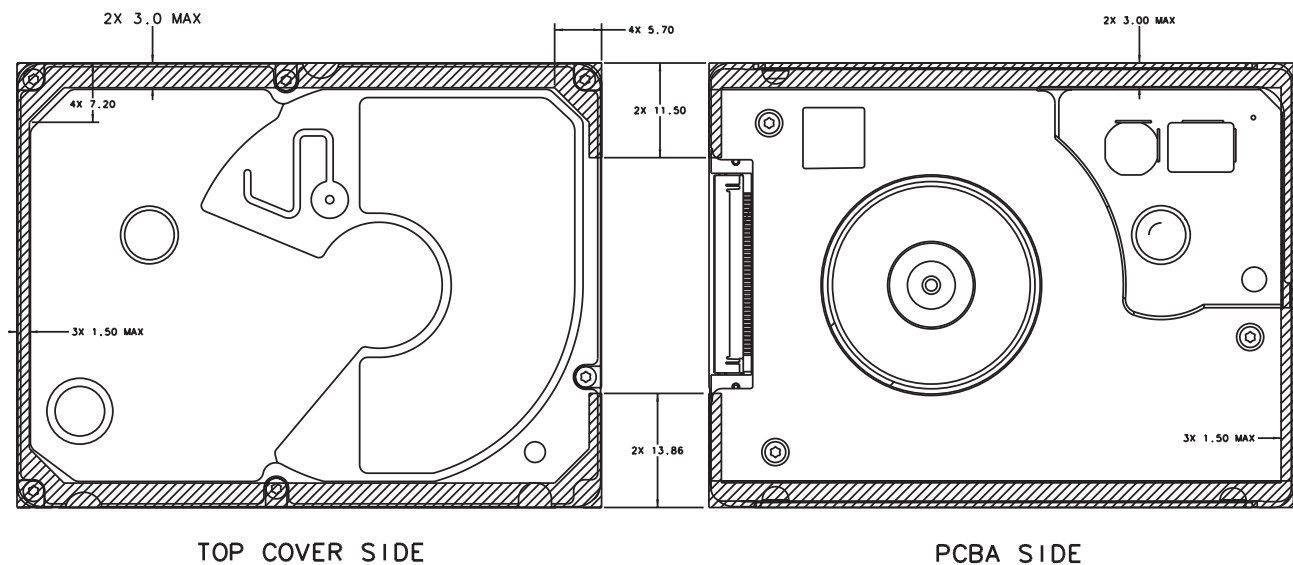

Figure 8. Lyrion Series Area for Protective Mounting
- There are guides along the side for mounting. Refer to figure on areas (refer to Figure 8, shaded area) where the mounting material can rest for mounting.